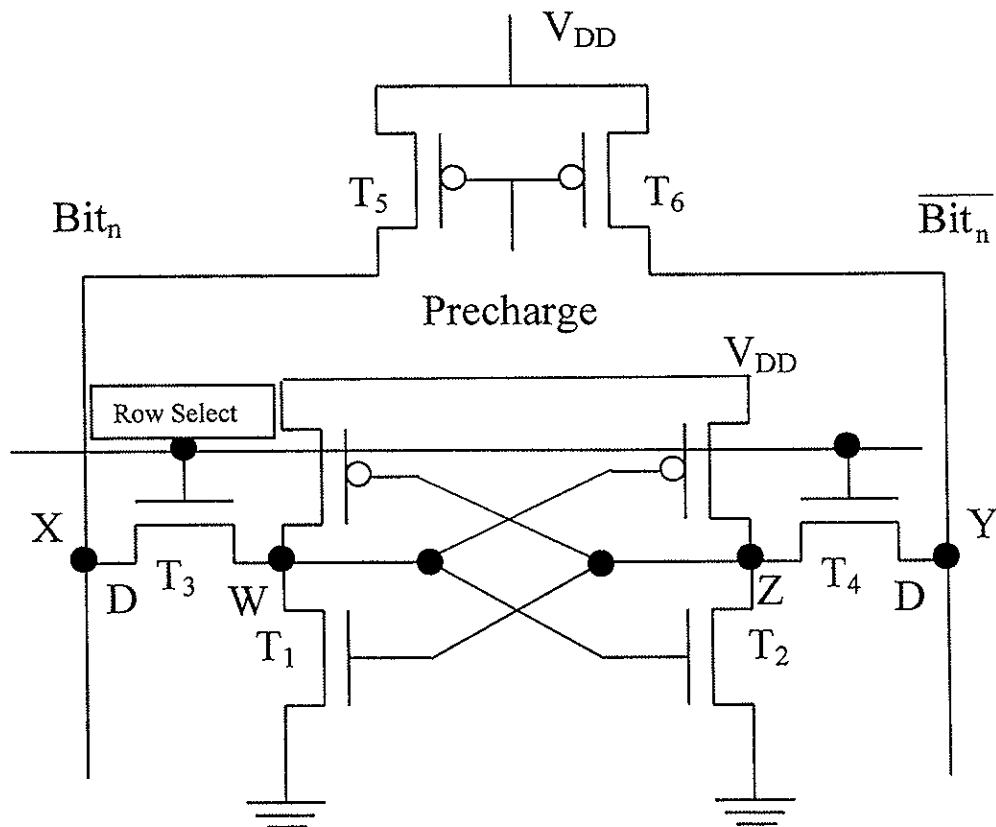

Figure Q3
- (b) Explain how read and write operations are performed, and how storage is achieved using the static random access memory cell shown in Figure Q3. What is the function of two p-channel transistor pairs? (10 marks)